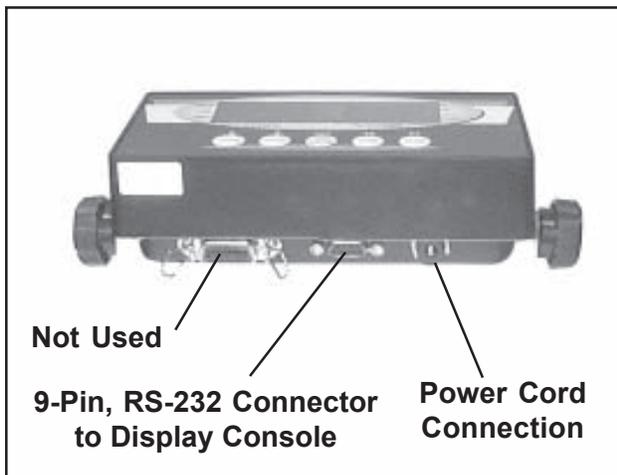

Figure 13. Remote Display Cable Connections
2. Plug the large, grey, 9-pin connector on the RS-232 cable into the remote display (Figures 13 and 15).
5. Plug the other end of the power cord into the remote display (Figure 13).